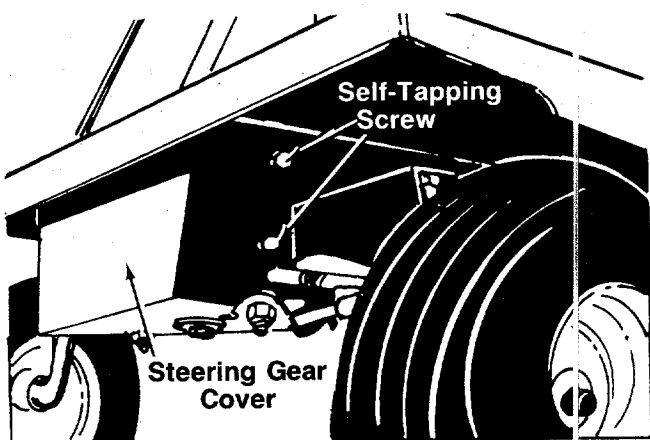

FIGURE 8.
14. Install the **steering gear cover** (D) as shown in figure 8, to cover the underside of the steering mechanism. Secure with two **self-tapping screws** on each side of the cover. Do not completely tighten any of these screws until all four of them are positioned correctly.